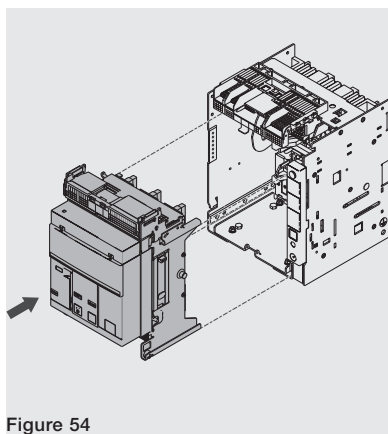
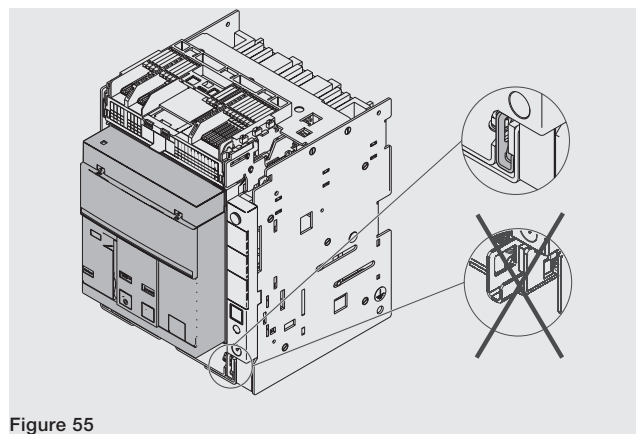

Figure 54
Figure 55
3. Position the moving part in the fixed part and push until it comes to a stop. See Figure 54 and Figure 55.